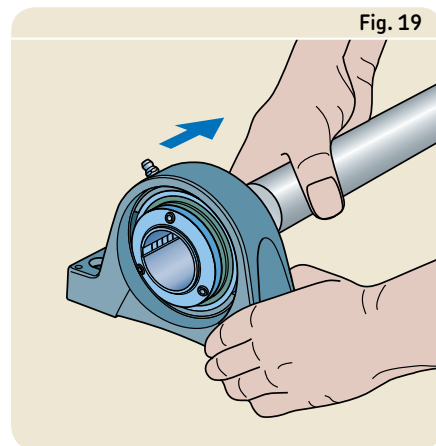

Fig. 19
- 4 Slide the first bearing unit onto the shaft making sure that the bearing locking device is accessible (→ **fig. 19**). For pillow block units, fit the attachment bolts or nuts but do not tighten them. Flanged bearing units should be fastened to the machine wall using, when available, the centring recess machined at the housing back.